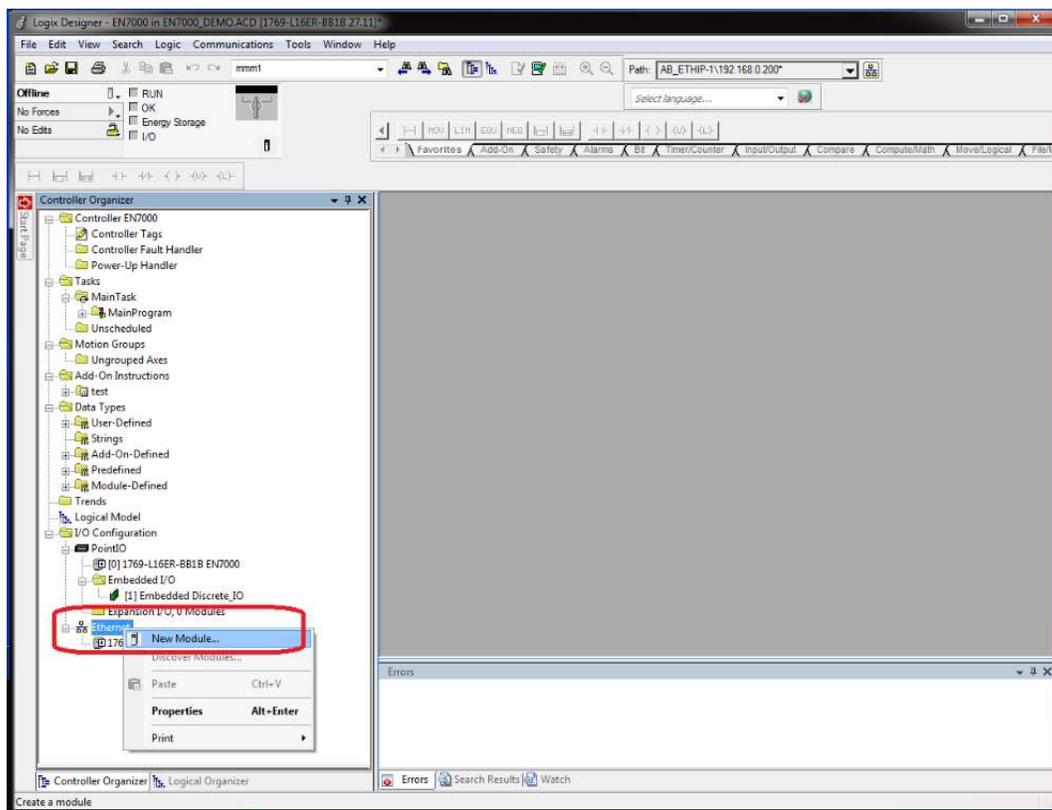

Figure 5 Create new module
- b. Right-click on the EtherNetIP gateway in the I/O configuration and select **New Module**, as shown in Figure 5.